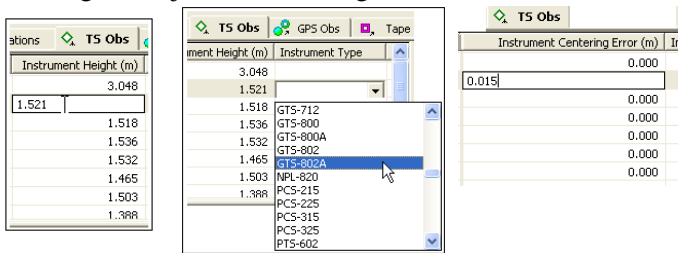

Figure 5-89. Editable Instrument Cells in Tabular View
2. Click a highlighted cell and edit the desired information (Figure 5-89).